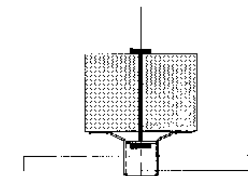

Figure 26
B.- Attachment using stud bolts, of sufficient length to go through the metal clamps, regardless of diameter. (figure 26)